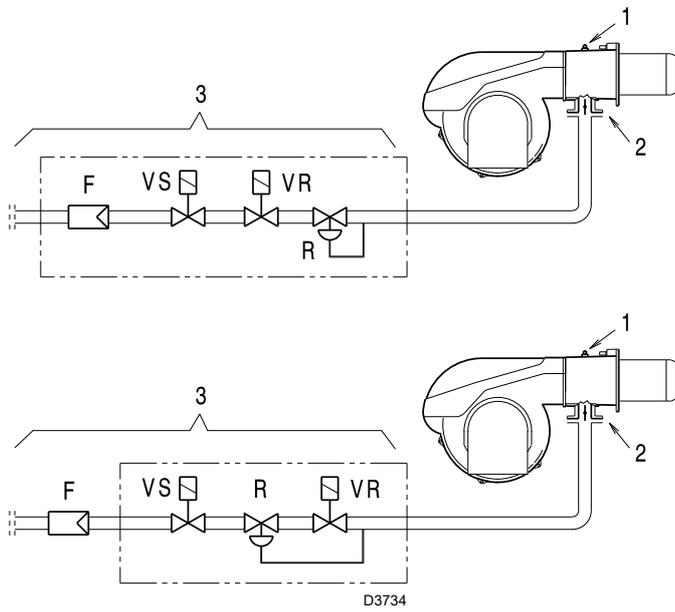

Fig. 23
Gas pressure measured at test point 1)(Fig. 23), with:
Pressure loss at gas butterfly valve 2)(Fig. 23) with maximum opening: 90°.
- subtract the combustion chamber pressure from the gas pressure measured at test point 1)(Fig. 23).
$$\begin{aligned} \text{Gas pressure at test point 1)(Fig. 23)} &= 11.7 \text{ mbar} \\ \text{Pressure in combustion chamber} &= 3 \text{ mbar} \\ 11.7 - 3 &= 8.7 \text{ mbar} \end{aligned}$$
To calculate the required gas pressure at test point 1)(Fig. 23), set the maximum modulating output required from the burner operation:
- read, on the right (column 1), the pressure at the test point 1) (Fig. 23).
pressure required at test point 1)(Fig. 23).